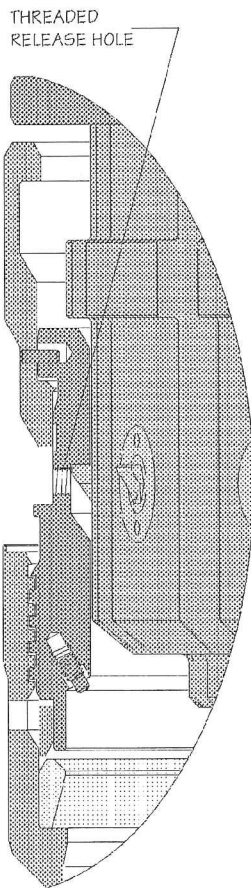

Figure 22. Detail of a Seal Assembly threaded release hole
4. Align the Seal Assembly release holes with the shear pins on the Running Tool. Refer to **Figure 22**.